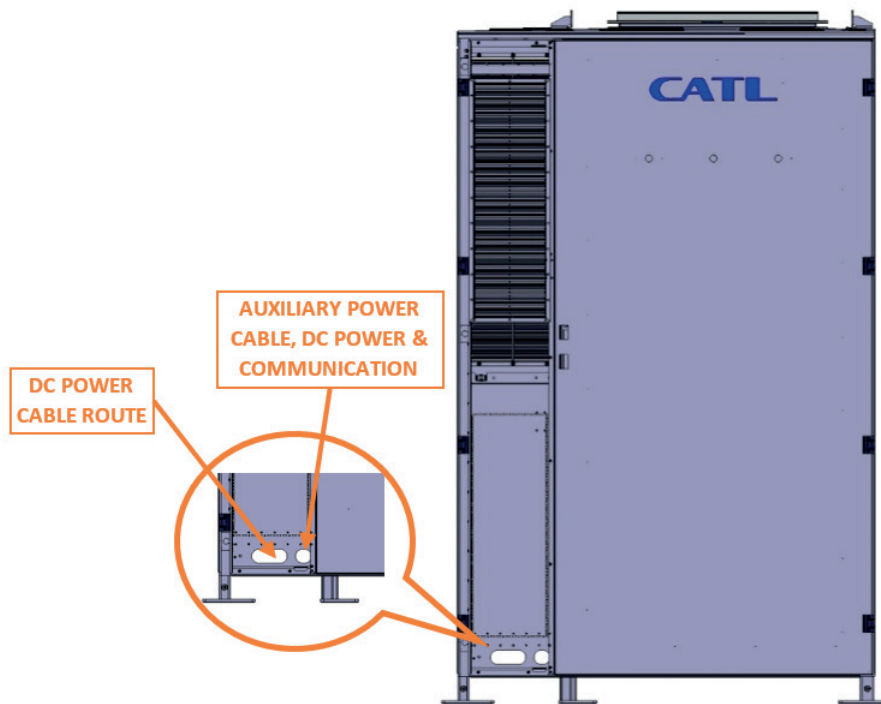

Figure 120. B-Cab XXL Cable Harness Routing
- b. While in positioned in the front of the first battery cabinet (B-Cab XXL #1) . With the end that has loose wires push the cable towards the back of the battery cabinet and through the circular opening at the battery cabinet. See Figure 120.